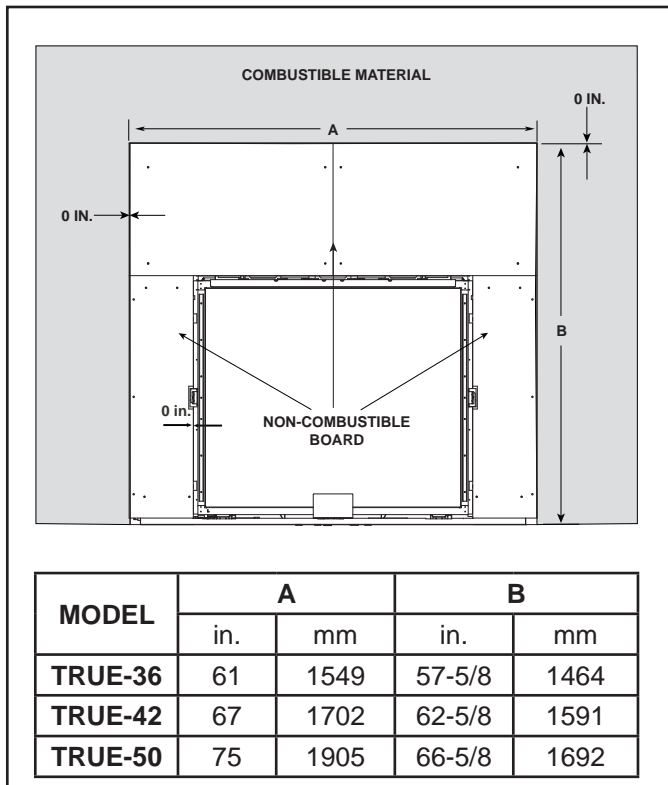

Figure 13.14 Non-combustible Facing Diagram
**NOTE:** Figure 13.14 shows the minimum clearance from fireplace opening to adjacent finishing materials greater than one inch thick for operable doors. The 1-1/2 inch clearance will allow the doors to open to 90 degrees. Increasing clearance from the fireplace opening to the adjacent finishing materials will allow the doors to open past 90 degrees.